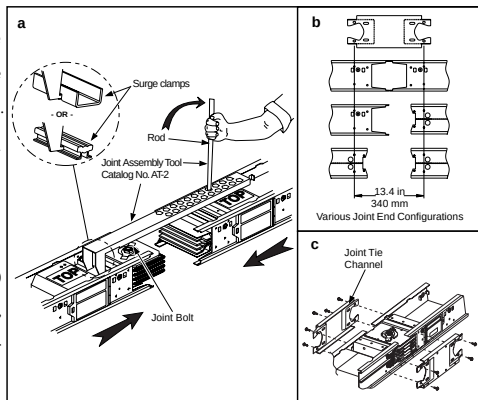

Figure 1: Joint Assembly
3. With the busway ends in the position shown in Figure 1,a, hook the joint assembly tool in the surge clamp on one busway and insert the rod through the hole in the assembly tool and behind the surge clamp on the opposite busway. Use joint assembly tool, catalog no. AT-2.
4. Be sure the busways are aligned properly before attempting to join them. With the rod engaged in the surge clamp, pull to slide the busways together until the busway is spaced as shown in Figure 1,b.